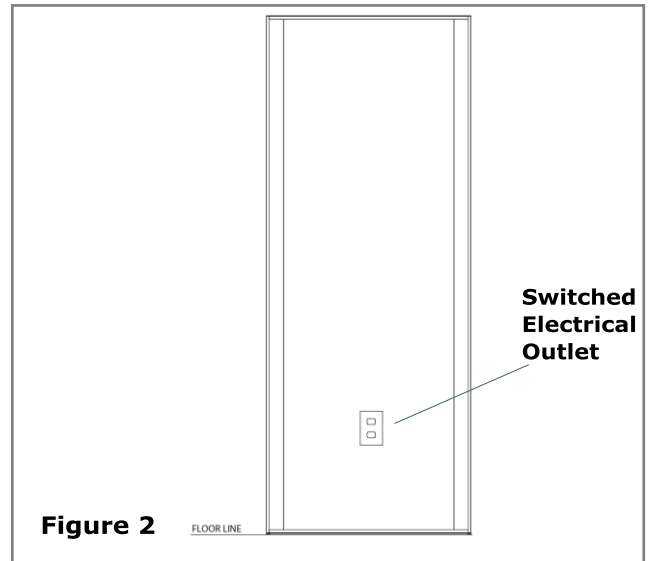

Figure 2
1. Before installing Tilt Model #620092, please verify there is an electrical outlet directly behind the mounting location. **(See Figure 2)**